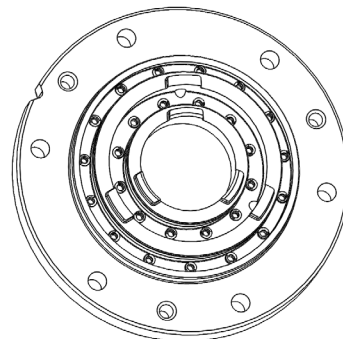

Figure 6 – Spring Installation (Plan 52)
1. Insert springs (153F) into all blind spring holes in cartridge (153R). See Figure 6.